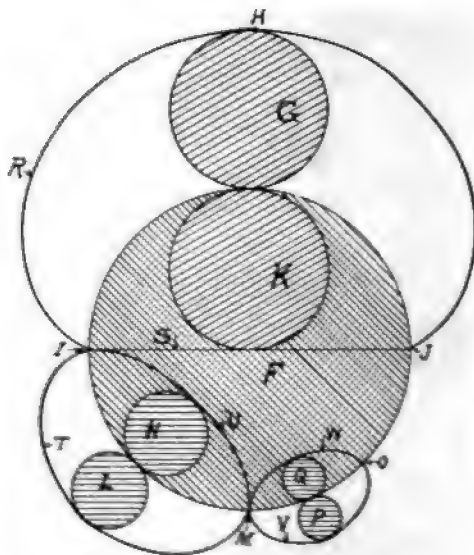
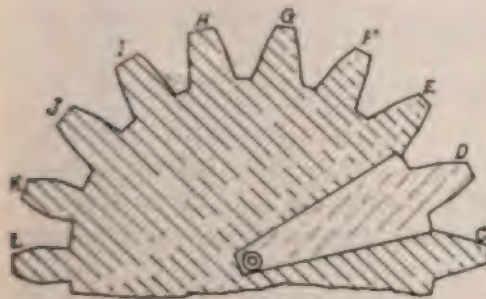
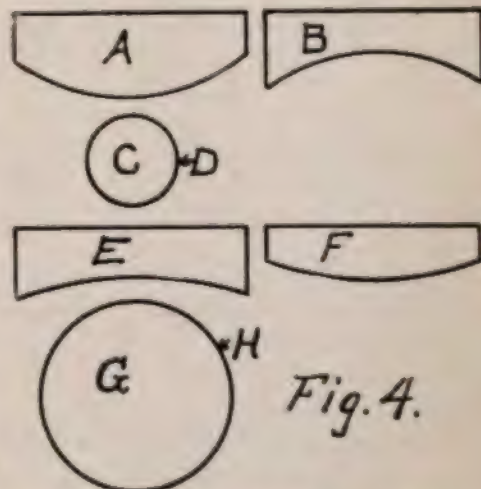

Fig. 2.
Fig. 3.
Fig. 4.
In Fig. 2 two engines are located together, one doing main hauling and the other doing the rolling of logs and handling of cars. Locomotives are a very fine adjunct to any logging company's equipment and are always built for sharp curves and rough tracks, for these roads are seldom put in any permanent manner.
Fig. 2 shows a form of coupling called the tail rope coupling, for connecting the different sections of the rope to run the train into a given district. All couplings aim at three things: First, to secure reliable connections; secondly, to provide a coupling link that will knock as little as possible on the rollers, and not injure the coils of the rope on the hauling drum; thirdly, to furnish a coupling in which the connections can be made and unmade in as short a period as possible. The form of coupling shown in Fig. 2 is one of the oldest and simplest in use today, therefore given here to explain the general principle, although not by
any means the best, as Fig. 3 shows another form which answers the requirements more fully and is called the "knock-off link or detaching-hook." This link or detaching hook is very handy when it becomes necessary to detach the rope from the cars when in motion, and when the hauling rope is tight. To do this successfully knock-off devices are applied. The endless rope devices of hauling can often be substituted with great advantage for either of the other three systems mentioned. The underlying principle of its action is that the haulage is done by a band or a series of
end of the stroke, and this is where the trouble often lies. One cannot determine whether the crank is on the dead center just by looking at it, as some would suppose. If you have no tram, make one to this sketch, the length depending on the style of engine. Then at some point on the frame of the engine make a center punch mark as shown in the sketch, make your tram long enough to reach the crank disc, as shown in Fig. 2. Having got this far, turn your engine over until
the cross head has come to about one-half inch of the end of its stroke, then mark a fine line on the cross-head and on the guide as shown at "X." Then with a pair of dividers, with one leg in the center of the crank shaft scribe a part of a circle "M" on the crank disc near the outside, as shown in Fig. 2. Then take your tram with one leg in the center punch mark that you have made on the frame at "O" and with the other scribe a line on the circle "M" at any point "A." Now turn the engine over (always in the direction the engine runs when hoisting) until the cross-head has gone to the end of its stroke and back until the mark on the cross-head will come exactly to the mark X on your guide. Now, take the tram with one leg in the center punch mark at "O" on engine frame, make another mark (B) on circle "M." Then divide the distance between A and B with your dividers so as to get point "P." Point "P" must be exactly half way between A and B. Now turn your engine in the direction it is to run until your tram has one leg in the point "O" on frame and the other leg at point "P" on crank disc, then the engine will be exactly on the dead center. Now in this position of the engine your valve should uncover the steam port 1-16 of an inch, and if this is the case your valve is properly set for the Main or Hoisting engine. For the Swinging or Boom engines the port should be exactly covered. —From *Steam Shovel News*.
major diameter of an ellipse thus formed will always be equal to the circumference of the generating circle, and the minor diameter equal to twice the diameter of the generating circle. Now if instead of a straight edge as in Fig. 1, we use a circular disc as F. Fig. 2, the curve produced will be the Epicycloid, and the character of the curve will be affected by
The formation of these curves is treated in the various books on Geometry, the method being to construct them by points and a curved ruler. In Fig. 3 A. is a part of a gear, showing teeth rolled with different sizes of generating templates. In order to roll the curves forming these teeth, it will be necessary to make rolling templates and generating circles as shown in Fig. 4, the template A. fitting inside the pitch line to roll the generating circle against to form the faces, and the template B. fitting to the outside of the pitch circle to roll the generating circle against to form the flanks
of the teeth. The generating template C., Fig. 4, is made one-fourth size the pitch circles A, B, of Fig. 4, and their relations are represented by L, and N, in Fig. 2. In Fig. 3, the Teeth C. D. E. F. G. have both their faces and flanks rolled with the quarter sized generator. This makes a tooth of pleasing form and is correct where the gear is to run with another gear having the same number of teeth, but if the mate is either larger or smaller, the faces should be rolled with a different sized generator. In this system the flanks of the gear being made are to be rolled with a generator one-fourth size of the gear being made, and the faces, or that part of the tooth outside
the pitch circle, is to be rolled with a generating circle one-fourth size of the mate. Now, if we were making a gear to run with one with twice as many teeth, whose diameter was twice as great, we should need another set of templates E. and F., Fig. 4, and another generator G., Fig. 4, the diameters being twice that of A. B. C., Fig. 4. With this arrangement of templates, and generators, the teeth would appear like H, I, J, Fig. 3, the flanks being the same as C, D, E, etc., but the end of the teeth would appear more blunt and stout. Now there is a system of making interchangeable gears, that is, all gears of the same pitch to work together, but where small gears are to run with very large ones, the teeth of the small gears are under-cut and are very weak. This form of tooth is represented at K, L, Fig. 3. The generating circle used to produce the interchangeable gear is one-half size of the pitch circle of a gear having fifteen teeth, for all sizes of gears of the same pitch. In this case the flanks of the fifteen tooth gear are radial,
of teeth is increased above fifteen the form of the teeth is much better, and in a very large gear the teeth are real stout. The generating circle, and the radial line it scribes is represented by K and S, Fig. 2. Now we can make correct gears, using one-eighth diameter generating circles, represented by P and Q, Fig. 2, but the teeth will be as much stout-flank, and pointed faces, as the radial flanks are under-cut.
The one tooth I use for a sweep template, as shown at B, Fig. 3, and fasten it to the center of the gear and move it to lay out each tooth. To lay out and make small gears of very coarse pitch, I lay the teeth out on a solid blank, and set the band-saw so as to give the necessary draft, saw them out, sandpaper a little, and they are ready for the moulder. If you have never taken time to think about this subject, I would advise you (especially if you are a patternmaker) to look it up and see what you can find out on the subject.